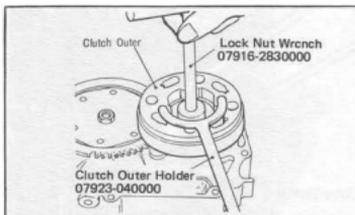

Fig. 37
- Straighten the tab on the lock washer, and using the clutch outer holder (Tool No. 07923-040000) and lock nut wrench (Tool No. 07916-2830000), loosen the lock nut and remove the clutch assembly (Fig. 37). The clutch is then disassembled.